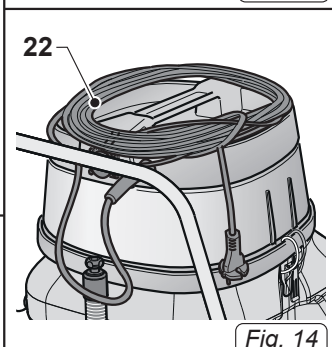

Fig. 14
- Roll up the cable (22 Fig. 14) and place it on the cover head.